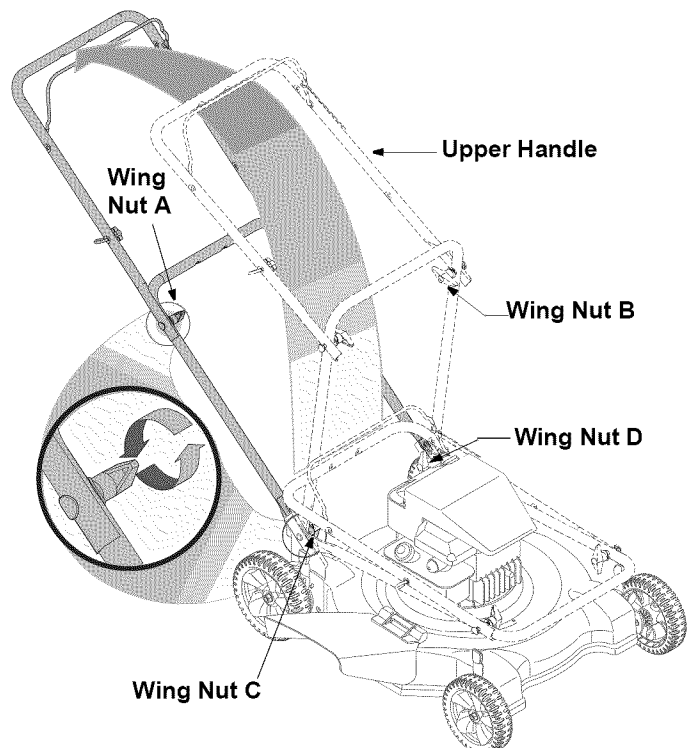

Figure 3
2. Tighten wing nuts A on each side of the handle. See Figure 3.